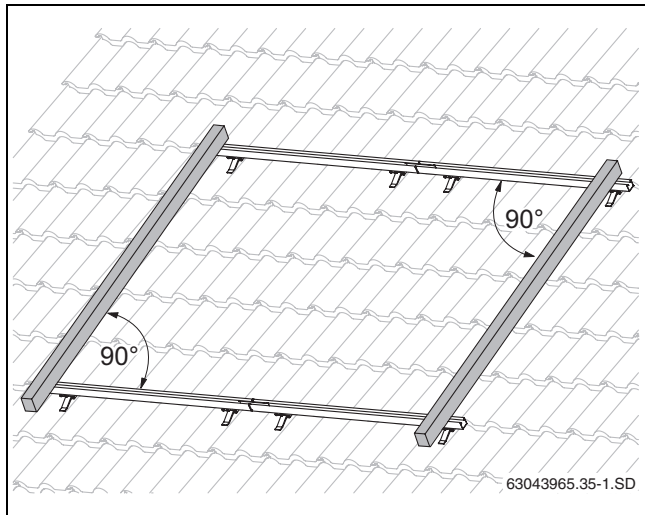

Fig. 29 Aligning the profile rails
- Align the upper and lower profile rails to the side flush with each other and level them (Fig. 29, use a spirit level).
Measure the diagonals or place a roof batten (Fig. 29, [1]), for example, at the ends of the profile rails. The angle between roof batten and profile rail must be 90°. Align the profile rails over the slotted holes.